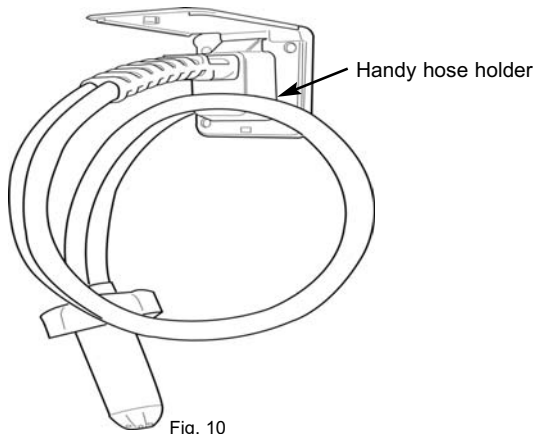

Fig. 10
- Fig. 10 When filling the water container - EP1612